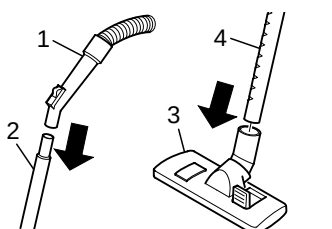

Fig.2
3. Push the handle (Fig. 2/1) into the upper end of the metal insert tube or of the telescopic tube (Fig. 2/2).
4. Push the floor nozzle (Fig. 2/3) onto the lower end of the metal insert tube or of the telescopic tube (Fig. 2/4).